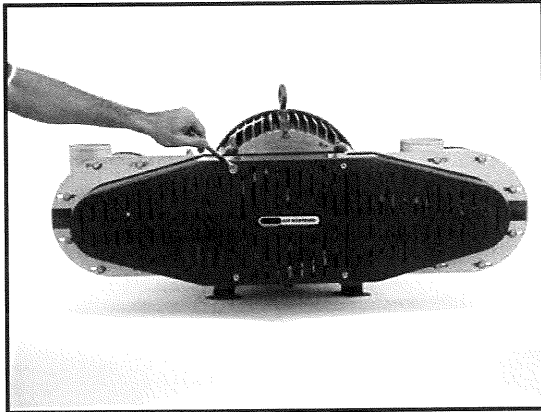

Figure 13 - Remove Belt Guard
1. Remove the belt guard using the ½ inch box-end wrench. (See Figure 13)